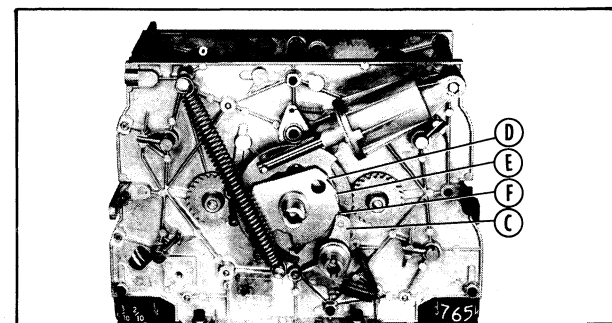

Figure 10. Motor Switch "OFF" Position.
2. Motor Switch "OFF" Position (Figure 10)